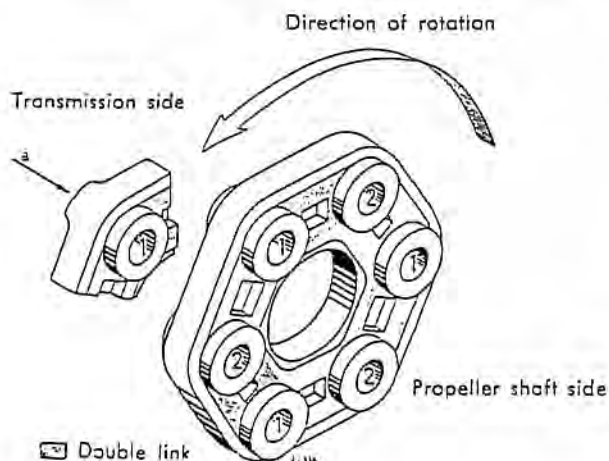

Fig. 25-15/12
In order to assist differentiation, a small shoulder (a) has been made on the outside of the first hole of each double-link. The shoulder must always point in the direction of the transmission (Fig. 25-15/12).
29. Install the intermediate bearing of the propeller shaft so that it is not under stress (see Fig. 25-15/3).
30. Attach the selector rod and the shift rod and fix the spring clips to the ball-cup connectors (see Fig. 25-15/1).